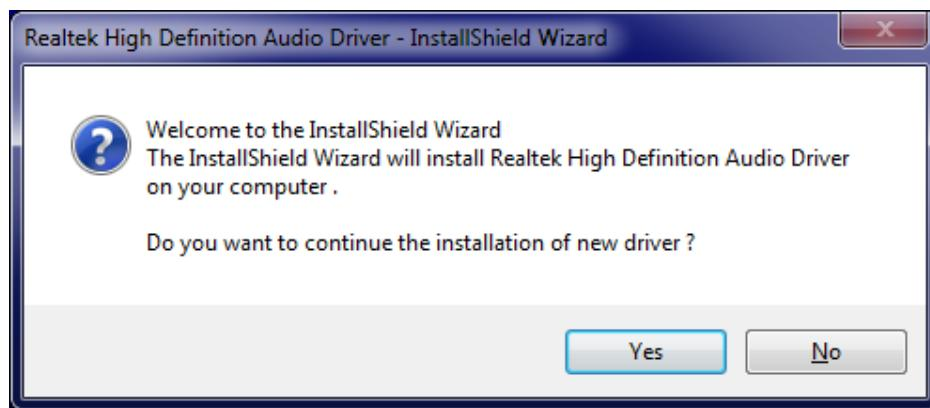

Figure 6-25: Audio Driver Welcome Screen
Step 5: Once initialized, the **InstallShield Wizard** welcome screen appears (**Figure 6-25**).